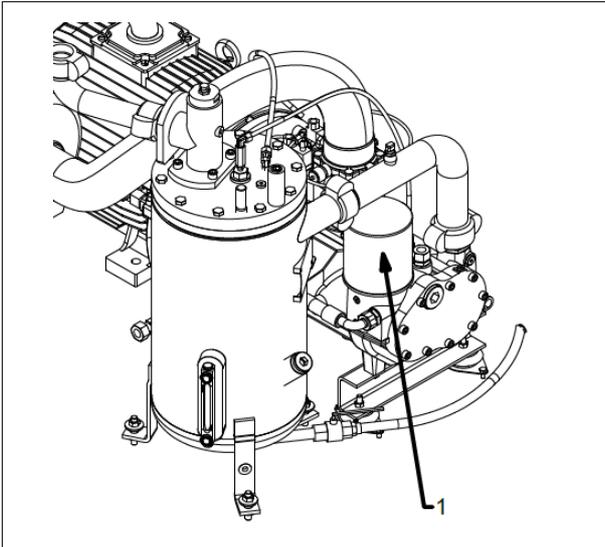

Fig. 19
- Unscrew the oil filter cartridge (-1- Fig. 19) with a suitable tool